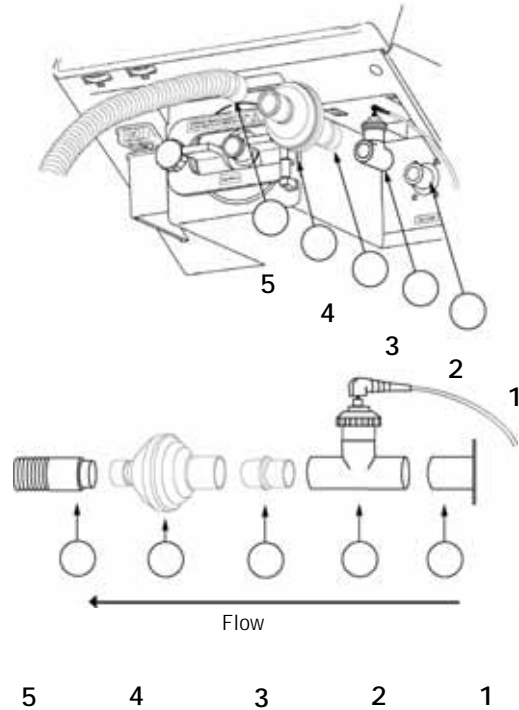

Figure 4-19: Inserting Disposable Inspiratory Bacteria Filter
The inspiratory bacteria filter (4) in Figure 4-19, mounts on the gas outlet port (1) located in the lower right corner on the front of the ventilator. If the optional O₂ sensor (2) will be used, it will be connected to the gas outlet port (1) before the inspiratory bacteria filter is connected. For more information regarding the optional O₂ sensor, refer to Chapter 13, "Options and Accessories".
Refer to Figure 4-19.